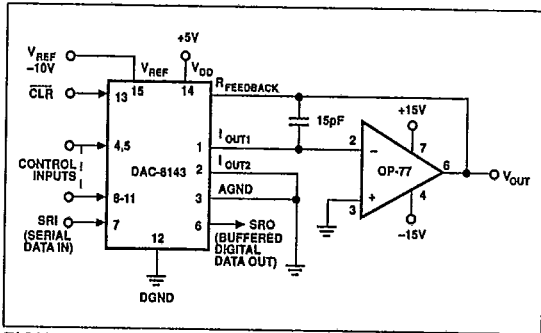

FIGURE 7: Unipolar Operation with High Accuracy Op Amp (2-Quadrant)
1. Phase compensation (see Figures 7 and 8).
The circuit shown in Figures 7 and 8 may be used with an AC or DC reference voltage. The circuit's output will range between 0V and +10(4095/4096)V depending upon the digital input code. The relationship between the digital input and the analog output is shown in Table 2. The V_{REF} voltage range is the maximum input voltage range of the op amp or $\pm 25V$, whichever is lowest.
- Nominal full scale for the circuits of Figures 7 and 8 is given by $FS = -V_{REF} \left(\frac{4095}{4096} \right)$.
- Nominal LSB magnitude for the circuits of Figures 7 and 8 is given by $LSB = V_{REF} \left(\frac{1}{4096} \right)$ or $V_{REF} (2^{-n})$.
The transfer function for the DAC-8143 connect in the multiplying mode as shown in Figures 7 and 8 is:
In most applications, linearity depends upon the potential of I_{OUT1} , I_{OUT2} , and AGND (pins 1, 2 and 3) being exactly equal to each other. In most applications, the DAC is connected to an external op amp with its noninverting input tied to ground (see Figures 7 and 8). The amplifier selected should have a low input bias current and low drift over temperature. The amplifier's input offset voltage should be nulled to less than $\pm 200 \mu V$ (less than 10% of 1 LSB).